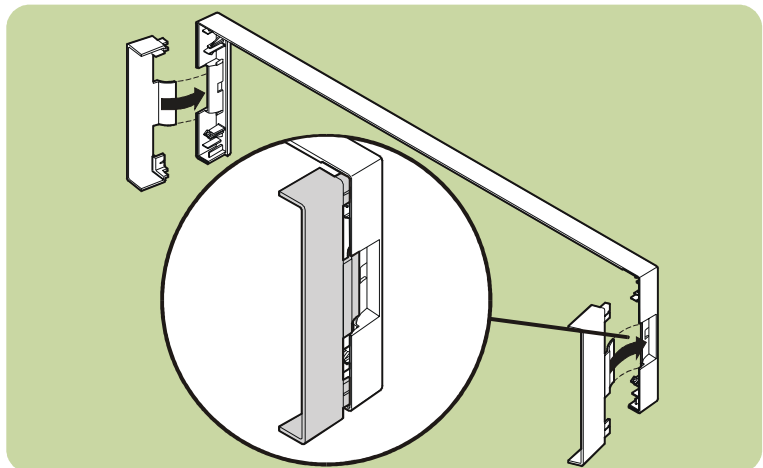

Fig. 19. Installing bezel spacers in HP Rack System/E
13. Install the front bezel spacers inside the front bezel (see Fig. 19).